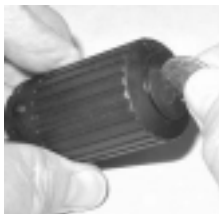

Fig. 147 - TMT BATTERY
- Apply a coin to the recessed slot of the Hatch and turn it counter clockwise out of the Housing (Fig. 147).